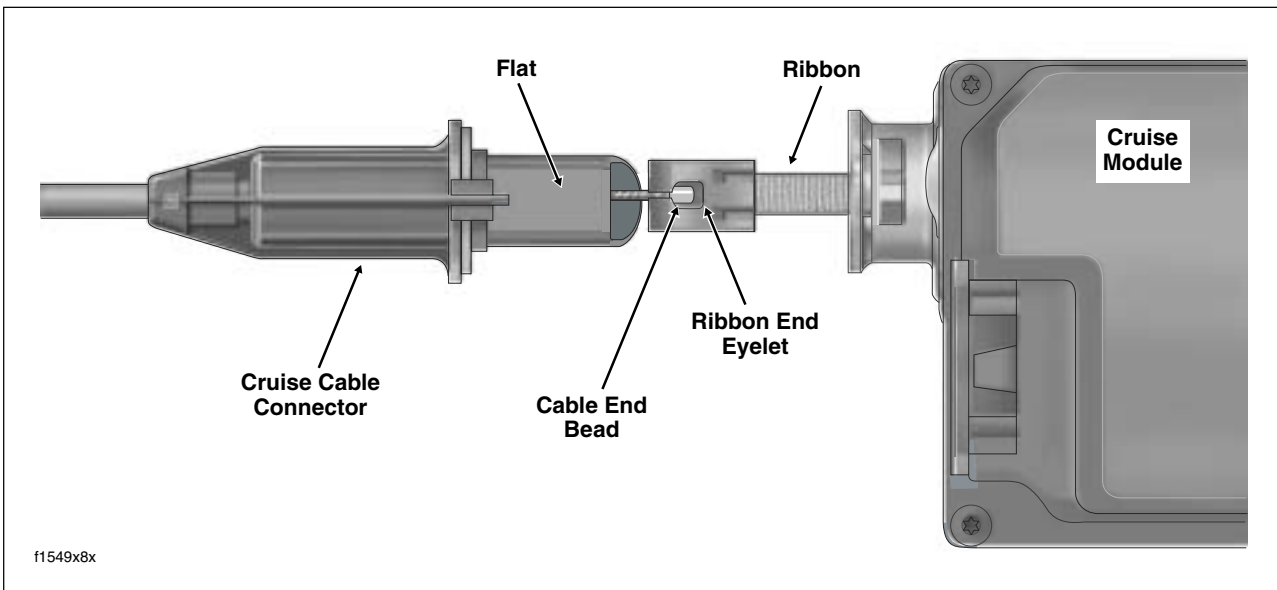

Figure 8-130. Remove Cable End Bead From Ribbon End Eyelet
7. Pull the cable out of the connector and remove the cable end bead from the ribbon end eyelet. See Figure 8-130.
5. With the hole in the ribbon end eyelet and the flat on the cable connector housing facing outboard, fit cable end bead into ribbon end eyelet. See Figure 8-130.
4. With the hole in the ribbon end eyelet and the flat on the cable connector housing facing outboard, fit cable end bead into ribbon end eyelet. See Figure 8-130.